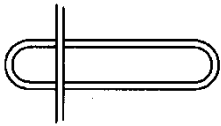

fig. 1
- Step 1 Pass the loop behind the line as shown in fig. 1.